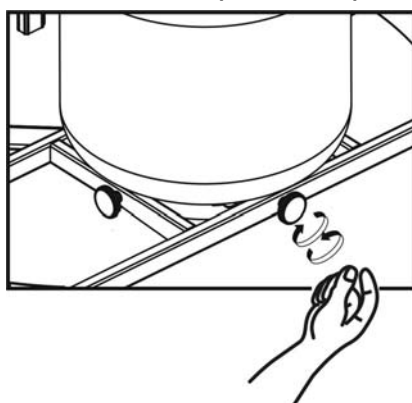

Figure 14
15. Tighten the threaded knobs (H) found on tank tray (Figure 14) so that the LP tank cannot move from side to side. Do not remove the plastic cap from the end of the threaded section.